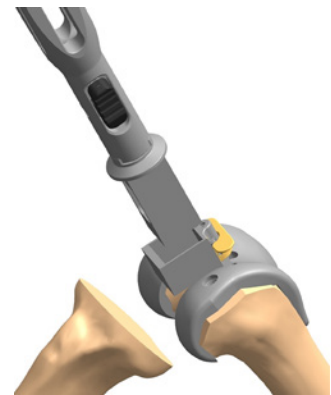

Figure 43
7. Connect the Modular Box Chisel (Figure 43) to the Modular Impact Handle. Insert the Chisel into the Collet and impact until flush. Slide collet and chisel again. Use underside of strike plate to remove.